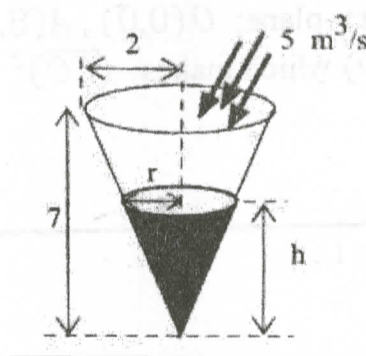

Figure 1
c) Water is flowing into a conical tank at a rate of $5 \text{ m}^3/\text{s}$. If the radius of the top of the cone is 2 m (see Figure 1), the height is 7 m, and the depth of the water is 4 m, then how fast is the water level rising (dh/dt)? [11 marks]